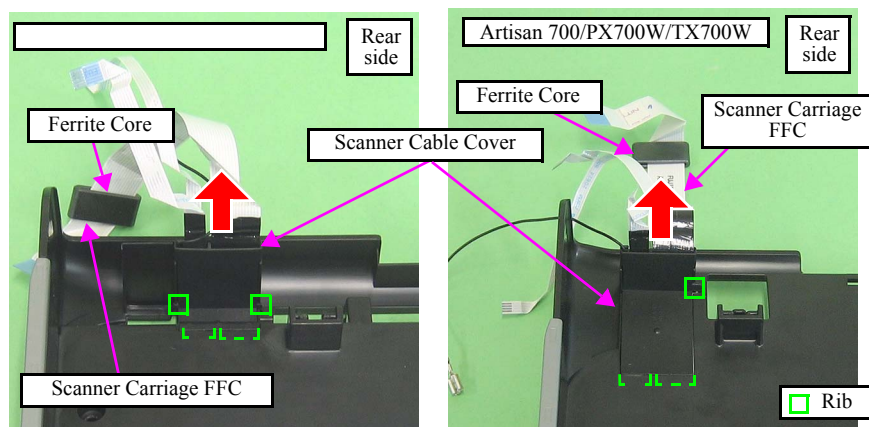
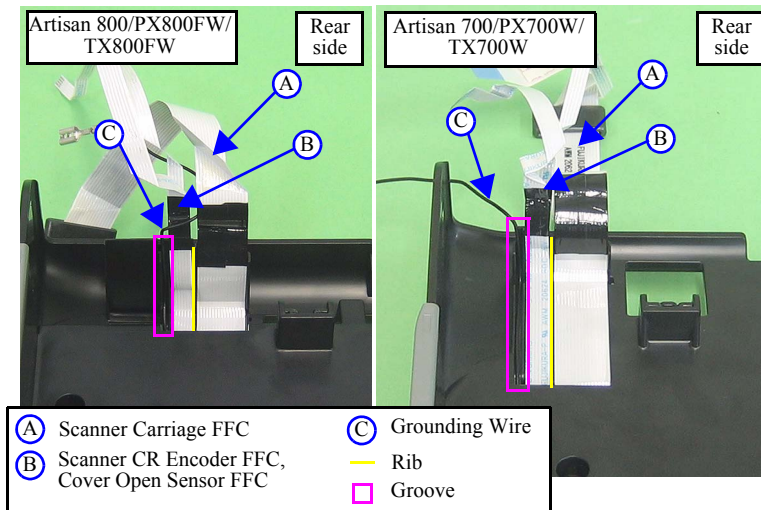
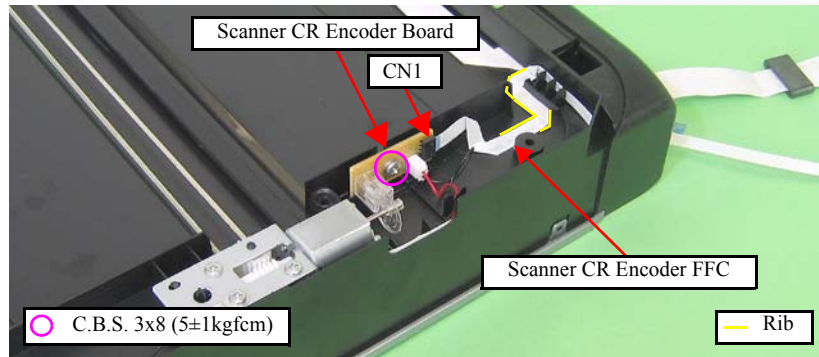

Figure 4-168. Removing the Carriage Unit (1)
Figure 4-171. Attaching the Scanner Cable Cover
Figure 4-172. Removing the Scanner CR Encoder Board
- Route the Grounding Wire as shown below and in Fig. 4-171. (Artisan 800/PX800FW/TX800FW: Fig. 4-165, Artisan 700/PX700W/TX700W: Fig. 4-166.)
When routing the Scanner CR Encoder FFC of Artisan 800/PX800FW/TX800FW, route it as shown in Fig. 4-168 and Fig. 4-172. See Fig. 4-171 and below for Artisan 700/PX700W/TX700W.
- When routing the Cover Open Sensor FFC, route it as shown below and in Fig. 4-171.